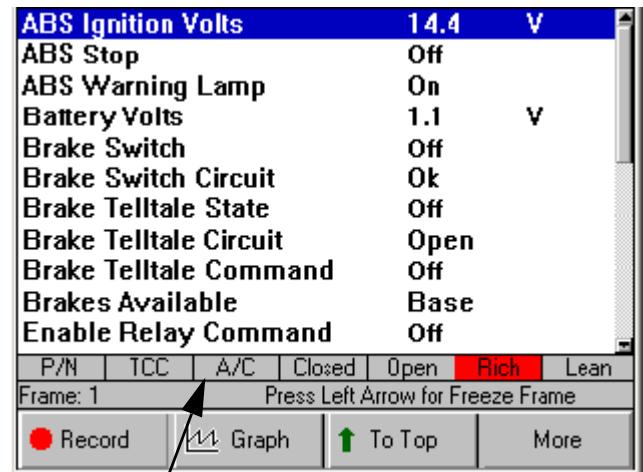

Figure 3.23: Datastream Screen - LED Bar Displayed
- 3 Press the **ENTER** key. (See Figure 3.23 on page 29.)